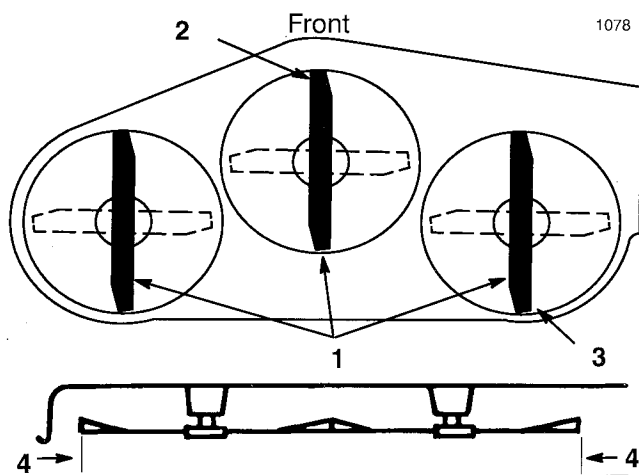

Figure 9
4. Carefully rotate blades so they are facing front and rear (Fig. 9).
5. Measure between the tip of the front blade (Fig. 9). and the tip of the rear blade to the flat surface. If the front blade tip is not 0–3/8" (0–9.5 mm) lower than the rear blade tip adjust front adjustment link.